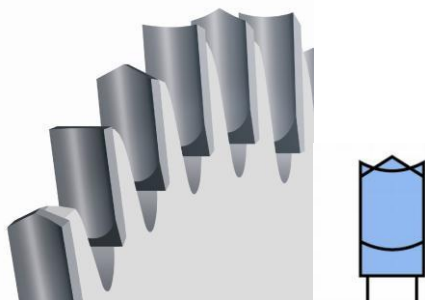

Figure 12: Top tooth/hollow tooth (source: Leitz GmbH & Co. KG)
Alternate top bevel (WZ) is the universal tooth shape for trimming and separating cuts. The tooth configuration results in a lower power consumption of the machine. The pull cut of the alternate top bevel provides excellent quality at the entry side. This blade can be easily sharpened (figure 12). Normally not recommended to fabricate JD Basic COMPACT sheets.